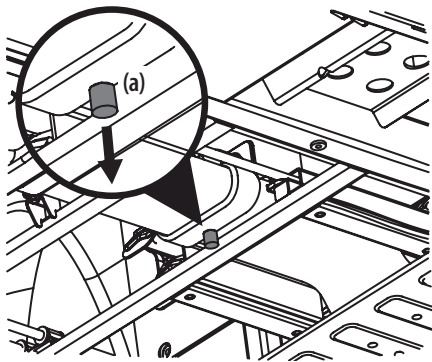

Figure 5-32
2. Remove the drain and allow the water to run out (a). Then replace the drain and the middle skid plate. See Figure 5-32.